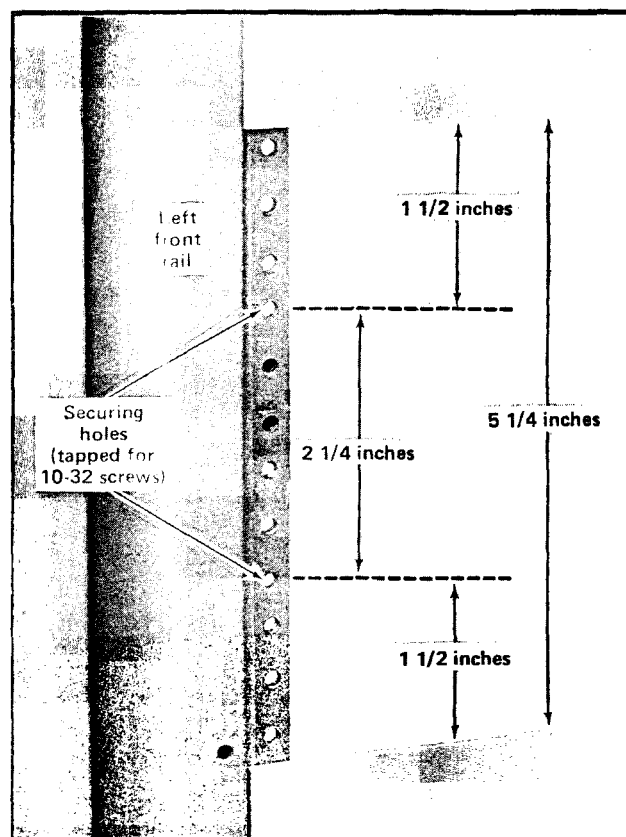

Fig. 6-1. Locating the mounting holes in the rack front rails.
2. Select the proper front-rail mounting holes in the instrument using the measurements shown in Fig. 6-1.